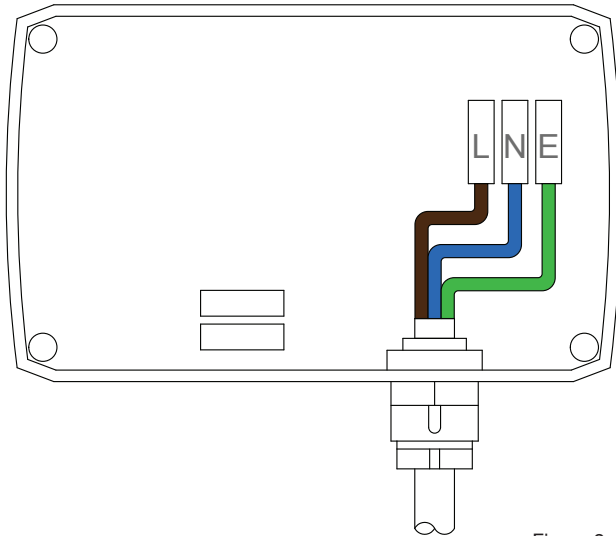

Figure 2. Connecting mains
2. Feed the mains power cable through the right hand cable gland (large) and connect the power cable to the terminal strip (see figure 2).